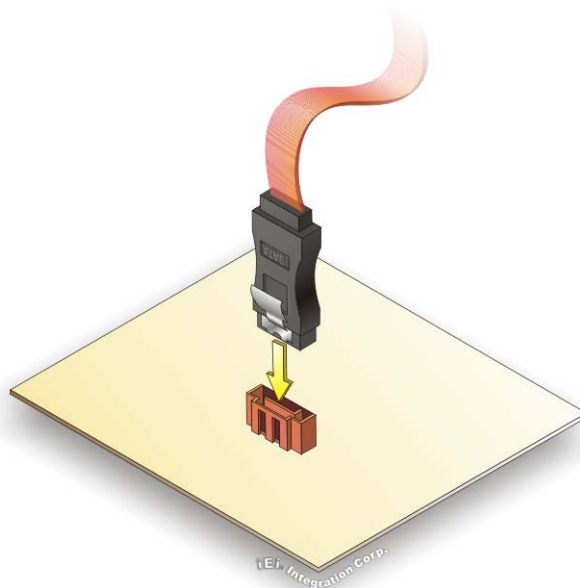

Figure 4-17: SATA Drive Cable Connection
Step 2: **Insert the cable connector.** Insert the cable connector into the on-board SATA drive connector until it clips into place. See **Figure 4-17**.